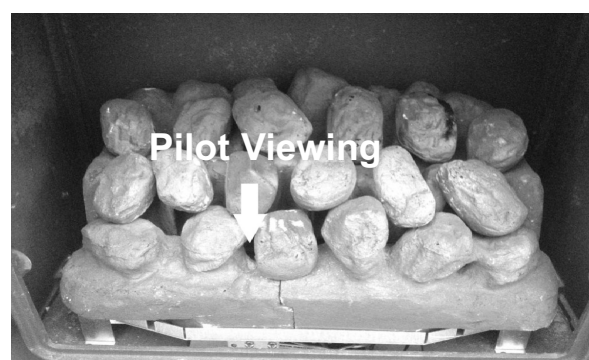

Figure 10a.
3. Turn the control knob clockwise to the 'Off' position. Repeat this operation until a flame appears at the pilot. The pilot can be seen by looking through the gap in the fuel effect (See figure 10a & 10b). There may be a delay before the pilot lights due to air being purged from the system. When a flame appears at the pilot keep the control knob depressed and hold the pilot ignition position for five seconds. When the control knob is released the pilot flame should remain lit.